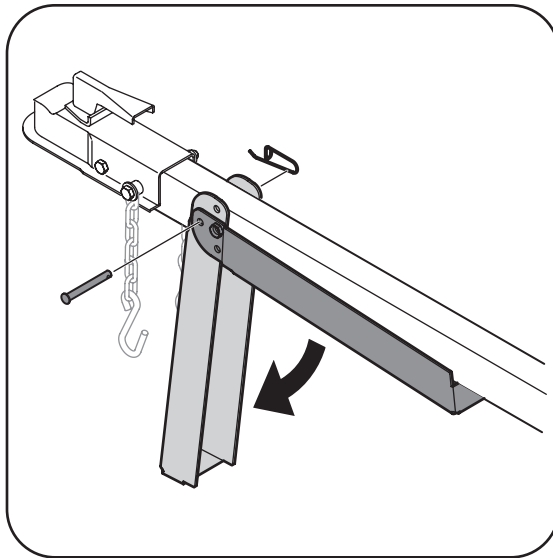

Figure 3-1
2. Secure the jack stand in position with the clevis pin and spring clip. See Figure 3-1.